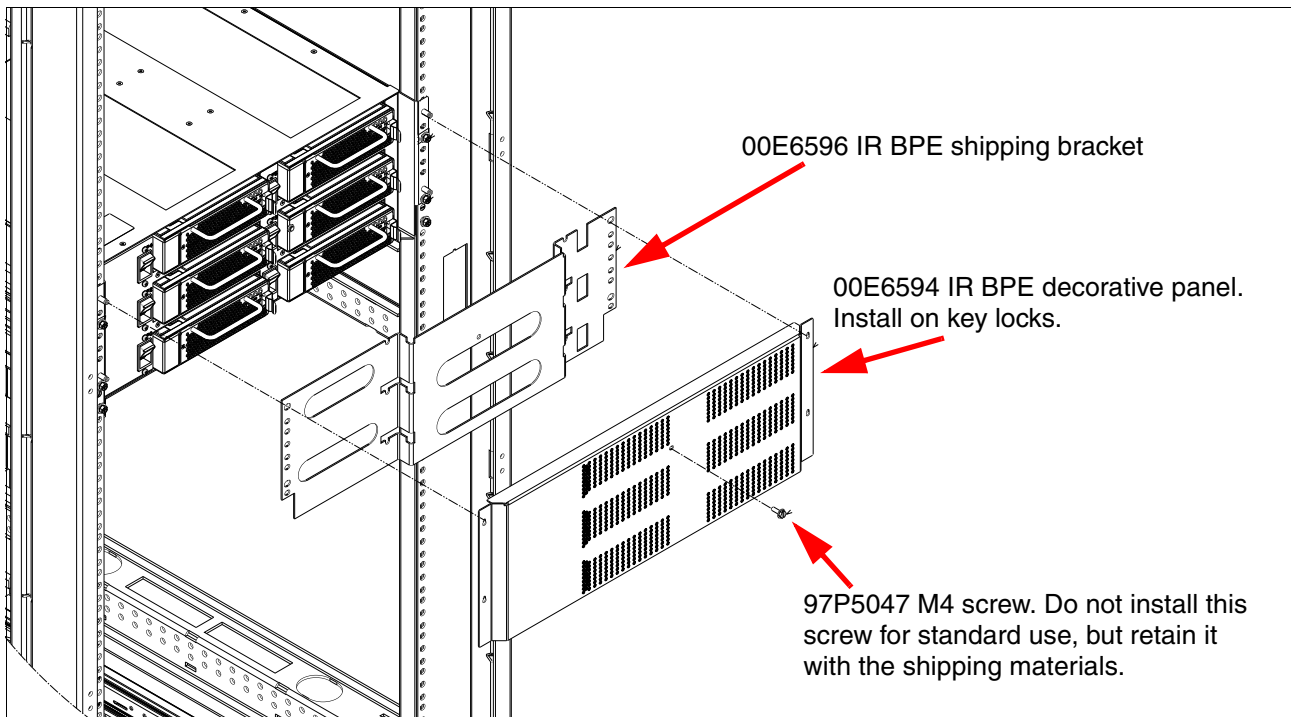

Figure 3-1 I/O rack front bezel and BPM shipping bracket
6. Replace the decorative bezel over the posts on the BPE using the keyhole slots on the bezel. Do NOT reinstall the screw PN 97P5047, but retain it with the packing materials for reuse if the rack is relocated. See Figure 3-1.